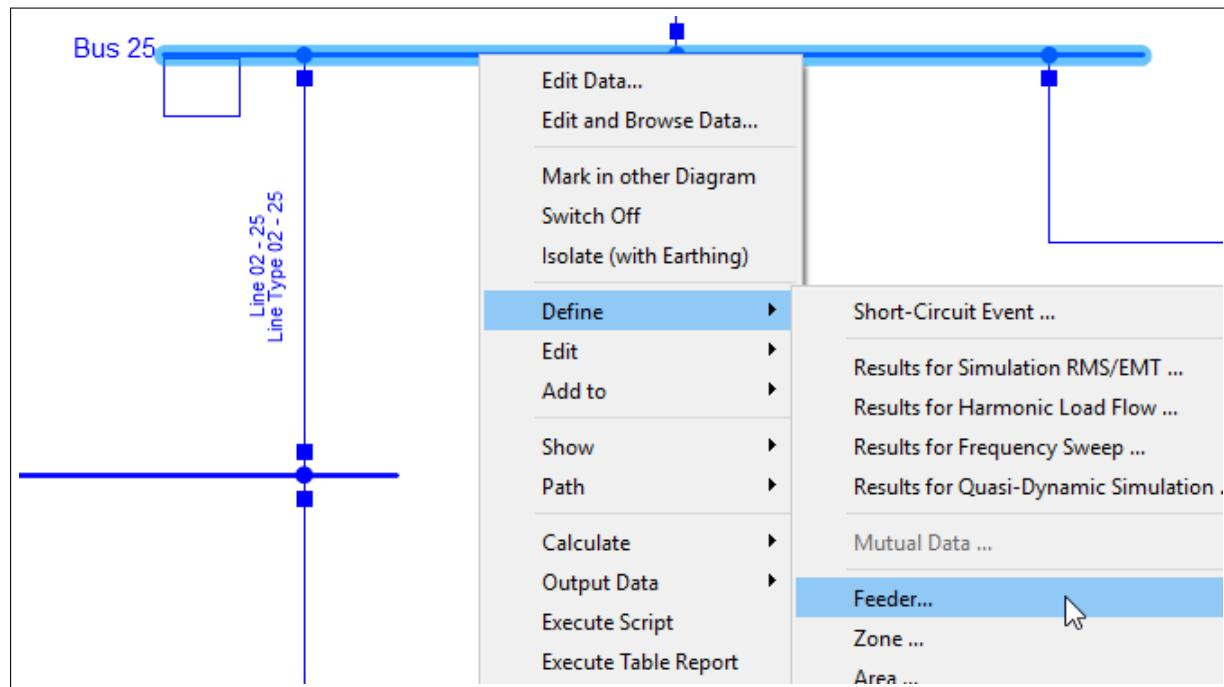

Figure 15.5.1: Definition of Feeders from a terminal by right-clicking the terminal
2. Choose the option *Define → Feeder...* from the context sensitive menu that appears. This step is illustrated in Figure 15.5.1.